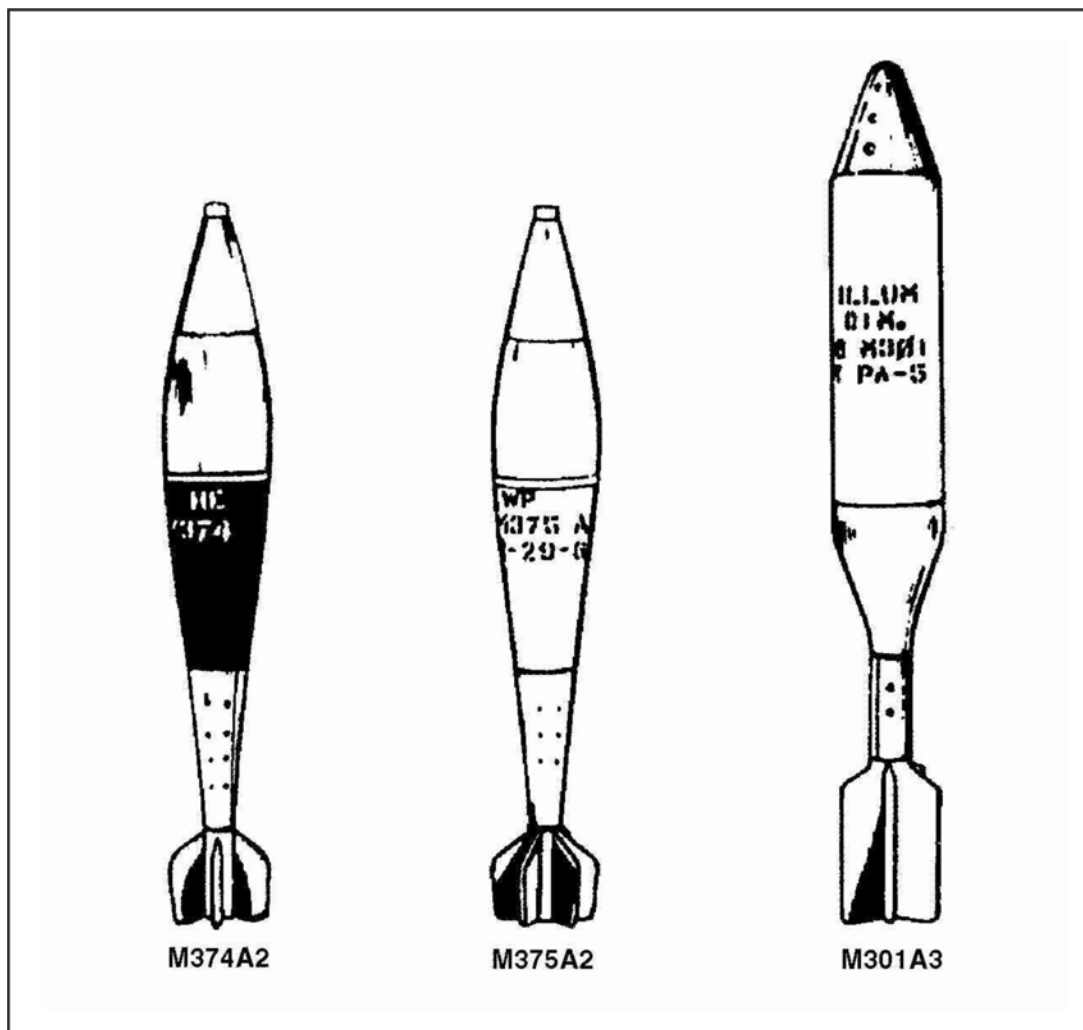

Figure 1. Standard 81-mm Mortar Ammunition
1. Identify rounds (Figure 1).